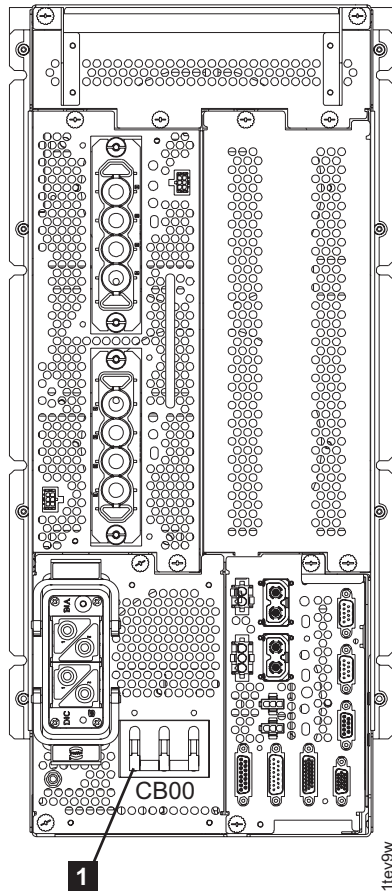

Figure 36. Rear view of PPS showing CB00
3. Verify the MAIN LINE circuit breaker **1** (CB00) on the rear of each primary power supply is set to Off (down). Refer to Figure 36.